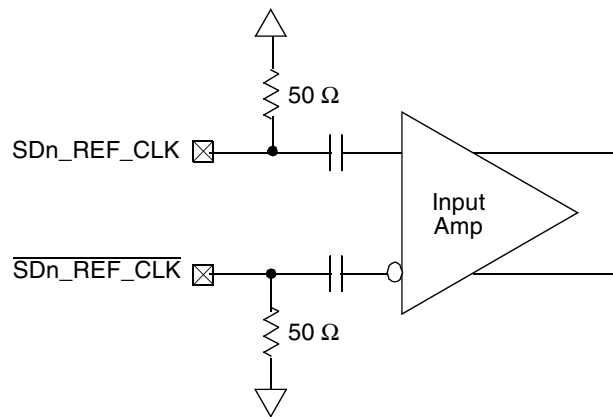

Figure 58. Receiver of SerDes Reference Clocks
Figure 58 shows a receiver reference diagram of the SerDes reference clocks.
- The  $SDn\_REF\_CLK$  and  $\overline{SDn\_REF\_CLK}$  are internally AC-coupled differential inputs as shown in Figure 58. Each differential clock input ( $SDn\_REF\_CLK$  or  $\overline{SDn\_REF\_CLK}$ ) has a  $50\text{-}\Omega$  termination to SGND (xcorevss) followed by on-chip AC-coupling.